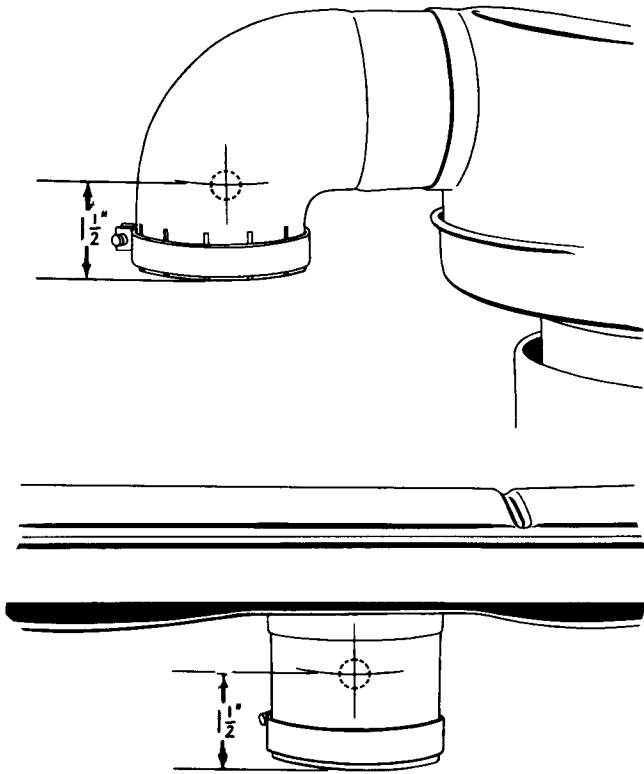

FIG. 7
19. Disassemble the air cleaner. Drill a $7/16$ " hole in the air cleaner elbow at 90° to the rear of the elbow center line and $1-1/2$ " from the lower edge of the elbow (see Fig. 7). With compressed air, clean inside of the air cleaner elbow.